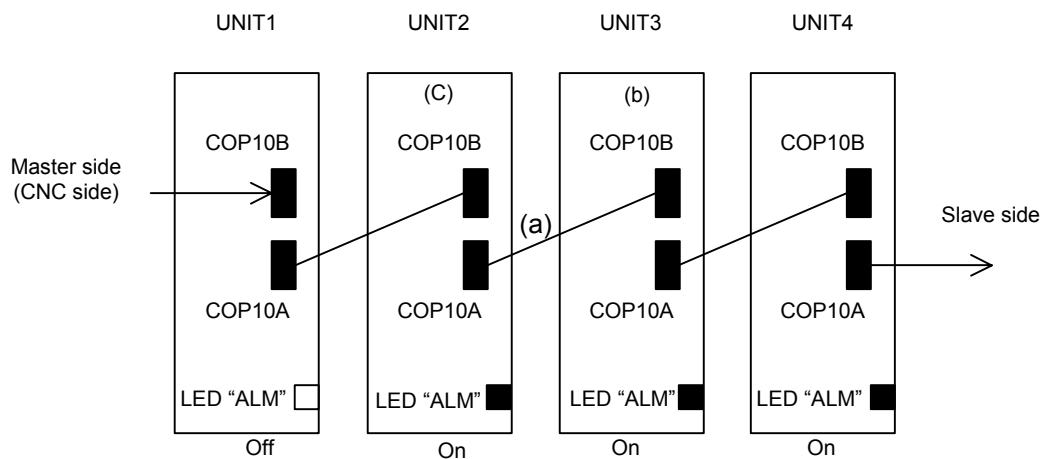

Fig. 3.1.10
- (2) Cause and troubleshooting
- (a) Replace the optical cable (COP10A) of the SVM that is nearest to the CNC among the amplifiers on which the ALM LED is lit (in Fig. 3.1.10, the cable between UNIT2 and UNIT3).
- (b) Replace the SVM that is the second nearest to the CNC among the amplifiers on which the ALM LED is lit (in Fig. 3.1.10, UNIT3).
- (c) Replace the SVM that is nearest to the CNC among the amplifiers on which the ALM LED is lit (in Fig. 3.1.10, UNIT2).